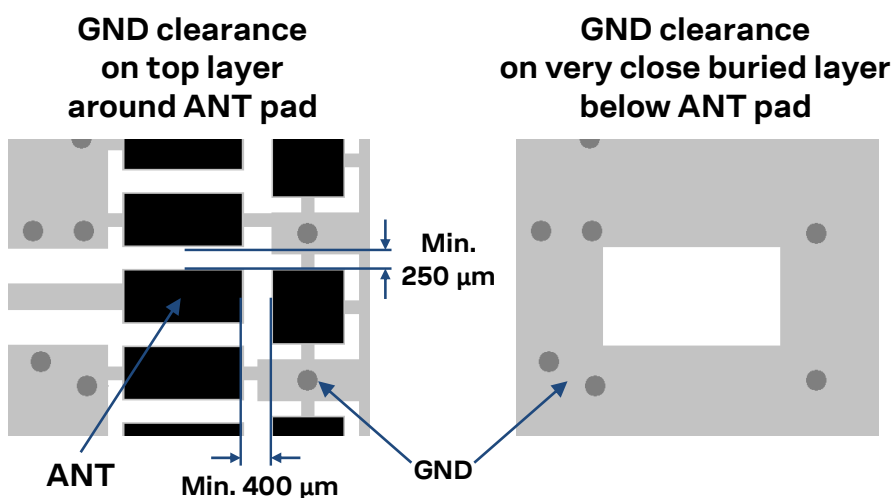

Figure 37: GND keep-out area on the top layer around ANT pad and on the very close buried layer below ANT pad
- Increase ground keep-out (i.e. clearance, a void area) around the **ANT** pad, on the top layer of the application PCB, to at least 250 μm up to adjacent pads metal definition and up to 400 μm on the area below the module, to reduce parasitic capacitance to ground, as described in the left picture in Figure 37
- Add ground keep-out (i.e. clearance, a void area) on the buried metal layer below the **ANT** pad if the top-layer to buried layer dielectric thickness is below 200 μm , to reduce parasitic capacitance to ground, as described in the right picture in Figure 37